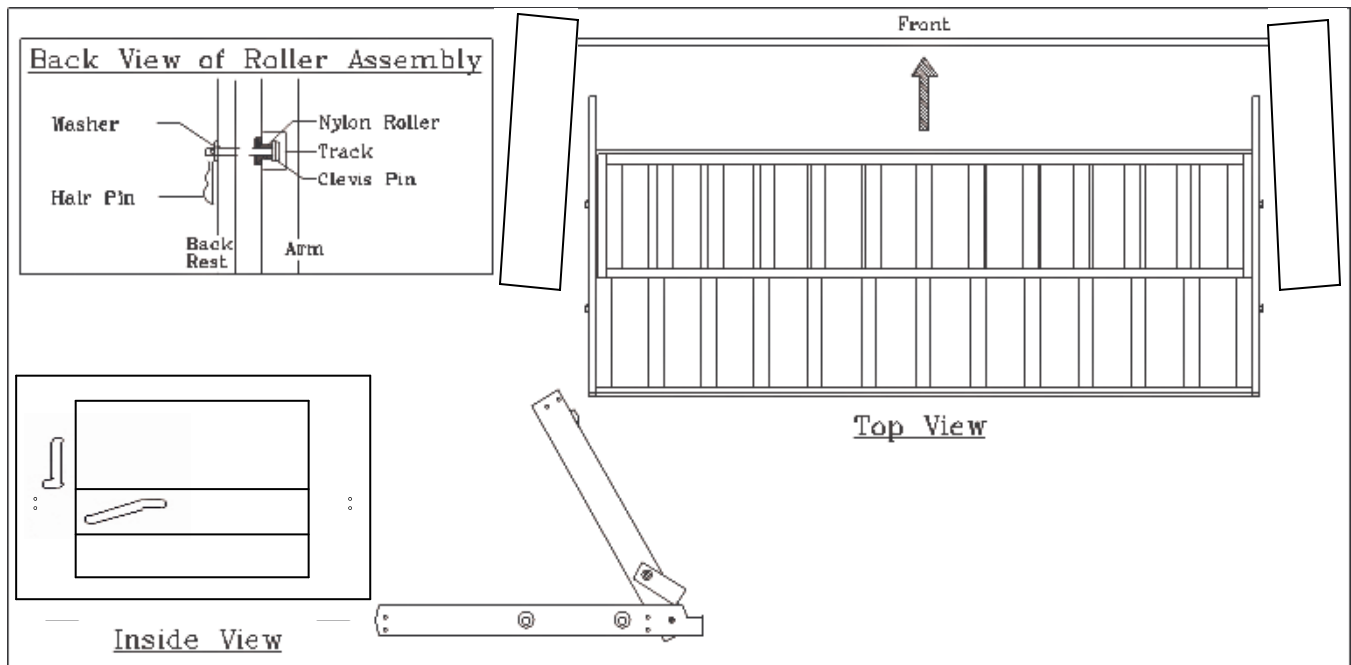

Figure 7
- 10) With the help of a friend, pick up backrest/seat assembly and place into arm/cross rail assembly completed in step #8. The two nylon rollers on backrest will slide into groove on inside of each arm (Figure 7). Pull backs of arms together to hold seat in place.